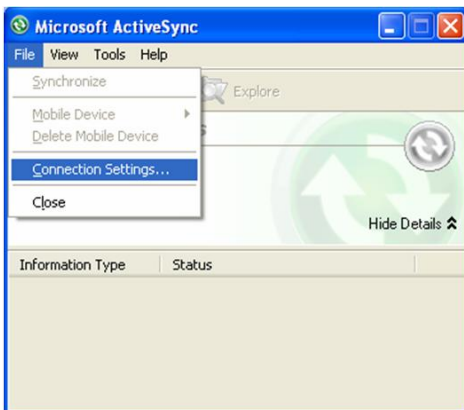

Figure 5-6 ActiveSync screen
- ① As shown Figure 5-6, navigate "File" → "Connect" → "Next";